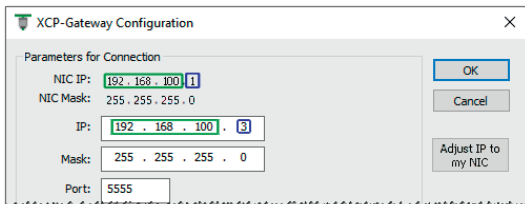

Fig. 6-25: **Adjust IP to my NIC** command
- ▶ If PC and network adapter are used for both, configuration and measurements, the IP addresses of the network adapter and the XCP-Gateway have to be in the same address range (Fig. 6-25, green markers), but they must not be identical (Fig. 6-25, blue markers). If required, the IP address can be adjusted by clicking the button **Adjust IP to my NIC**. The IP address is then automatically adjusted to the IP address of the network adapter. A manual modification of the **IP address** entry is not required.